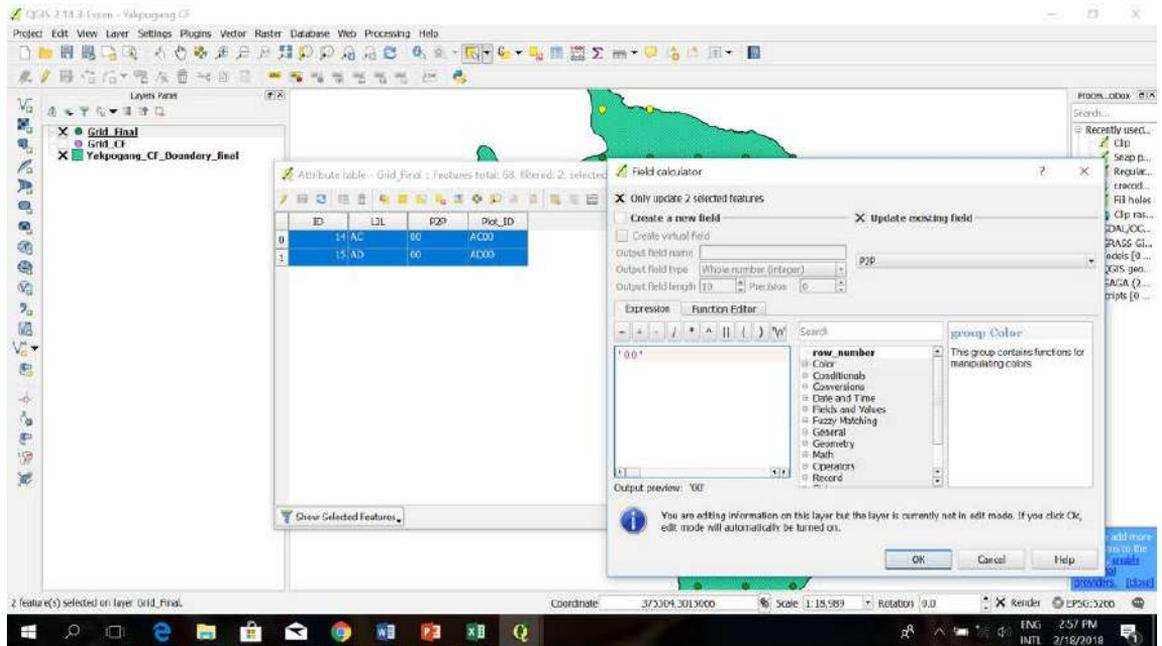

Figure 10d
- Assigning values for P2P as 00, 01, 02, 03, 04.....as shown in the Figure 10d